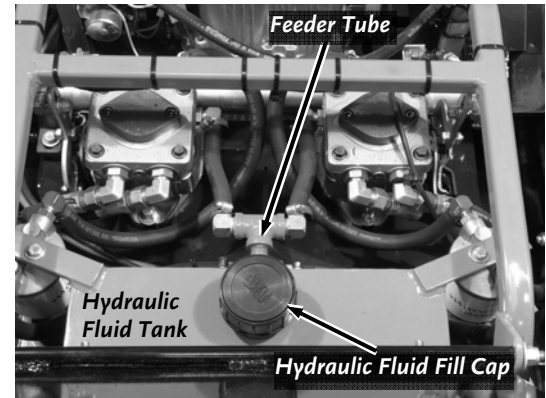

Figure 15
- Remove the Fill Cap and check that the fluid level is about 1/4"-1/2" from the bottom of the Feeder Tube on the back of the Hydraulic Fluid Tank (Figure 15).